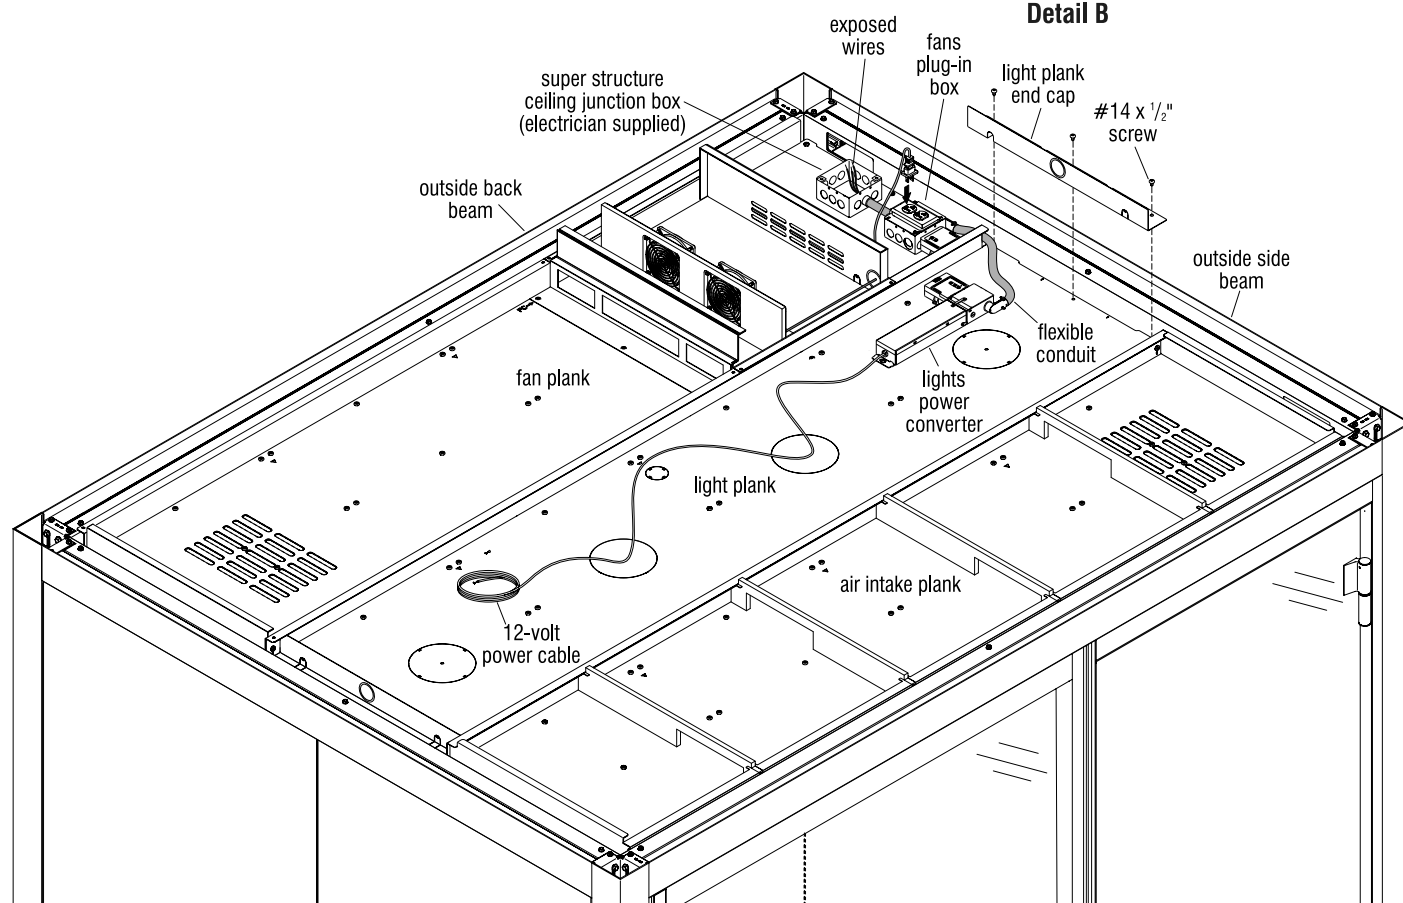

Figure 2
3. Take the light plank end cap in hand and orient it as it was removed in step 1, over the location where the conduit from the lights power converter wraps around from the light plank to the fan plank. Identify the end cap knock-out that the conduit must pass through when the light plank end cap is re-installed. Use a side cutter and remove the appropriate knock-out in the light plank end cap (Detail B). Re-install the end cap onto the end of the light plank to capture the conduit, using the #14 x 1/2" screws removed in step 1 above (Figure 2 & Detail B).
5. Place an electrician supplied electrical junction box into position as illustrated on top of the fans plank, at the location of the exposed wires coming from the fan plug-in box. Run the wires into the junction box and connect the conduit appropriately to the box (Figure 2).
6. Locate the fan power cord and plug it into the fan plug-in box (Figure 2).